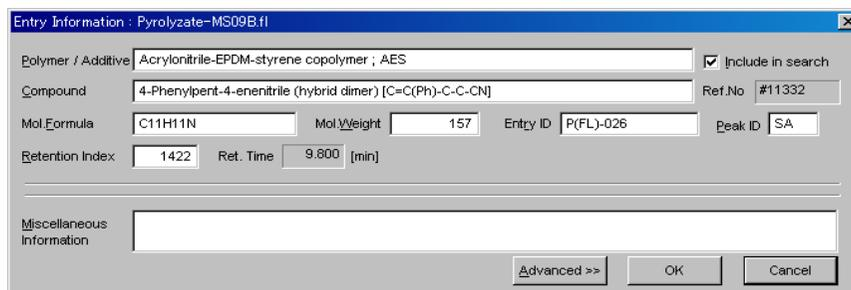

Fig. 5-37 Entering Py-GC/MS data of polymer pyrolyzates
- (4) As shown in Fig. 5-37, enter the sample information. Table. 5.1 describes each field. Click [OK] to complete this process. Note that the information entered here can be edited any time (see section 5.6.6). Repeat steps 1 through 4 above to add multiple records to the library.